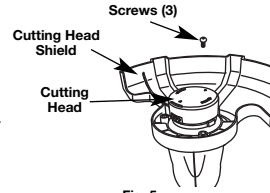

Fig. 5
1. Turn the unit over so that the cutting head is facing up (Fig. 5).
4. Install and tighten the screws with a Phillips screwdriver (Fig. 5).